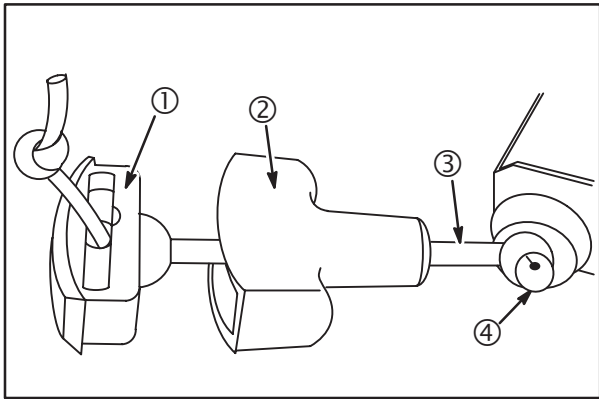

Fig. 51
1. Pull rope out partially. Tie a temporary knot (4), **Fig. 51**.
2. Remove insert (1) from rope handle (2). Pull knot out of rope insert.
4. Pull rope (3) out as far as it will go.